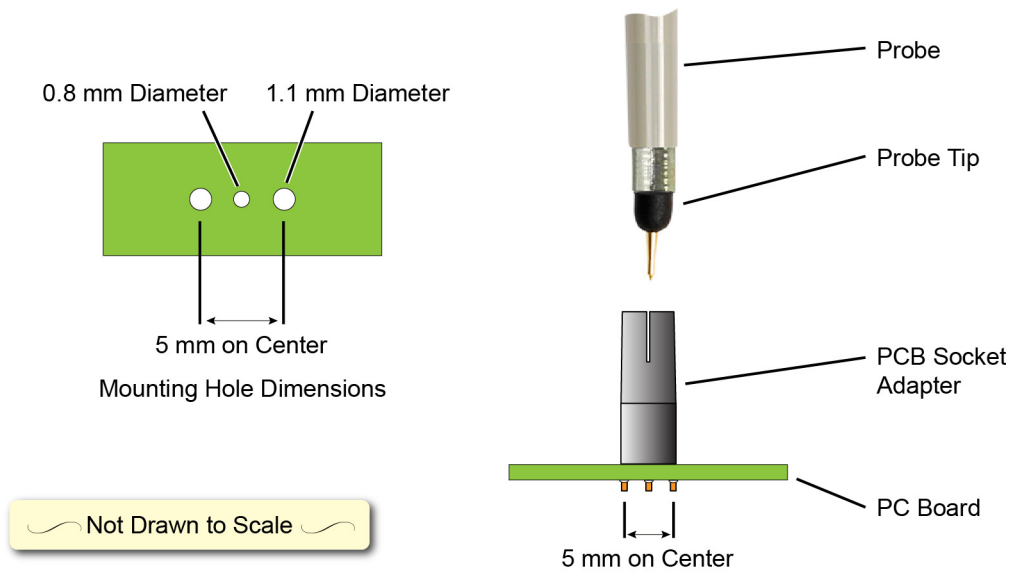
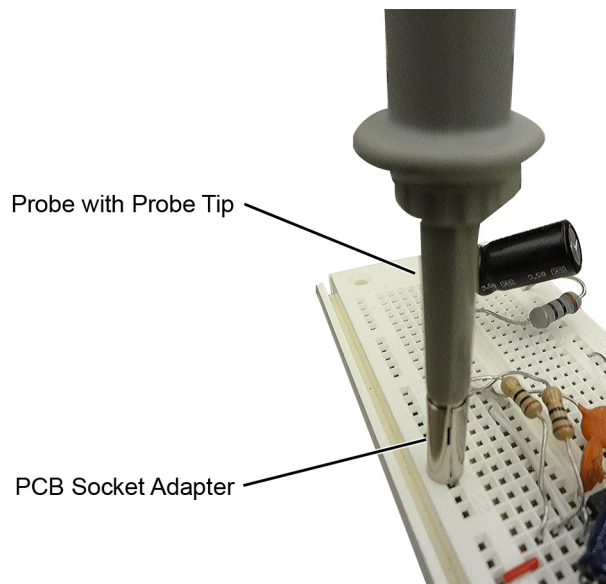

Figure 7 PCB Socket Adapter Soldered on PC Board
Figure 8 PCB Socket Adapter Plugged onto Breadboard
**Figure 7** shows the PCB adapter soldered on a PC board. Mounting hole dimensions are included in the figure. **Figure 8** on page 13 shows the PCB adapter plugged onto a solder-less breadboard. In both situations, the probe tip is inserted into the adapter.